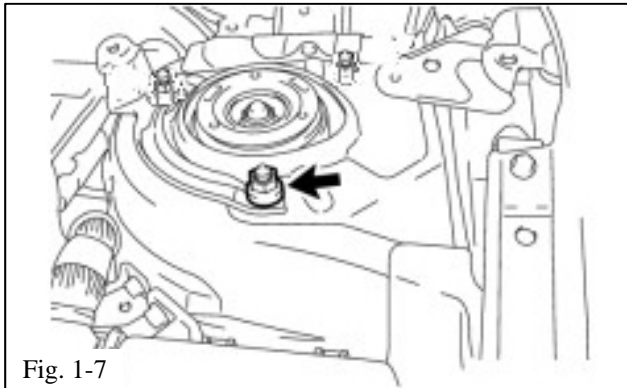

Fig. 1-7
(1) Support the weight of the strut assembly and remove the top nut by hand (Fig. 1-7).
(2) Pull the strut assembly out of the wheel well.